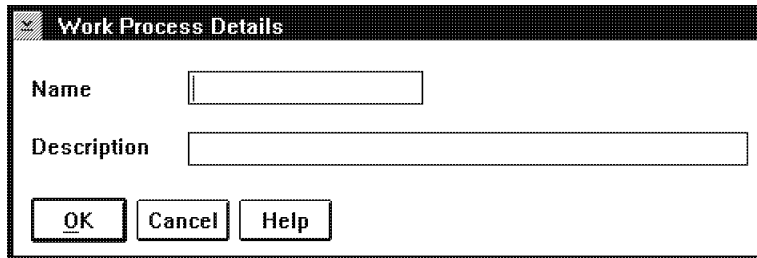

Figure 40. Work Process Details Window
1. Select **Work process details** from the **Work process** pull-down. You see the Work Process Details window shown in Figure 40 on page 77.